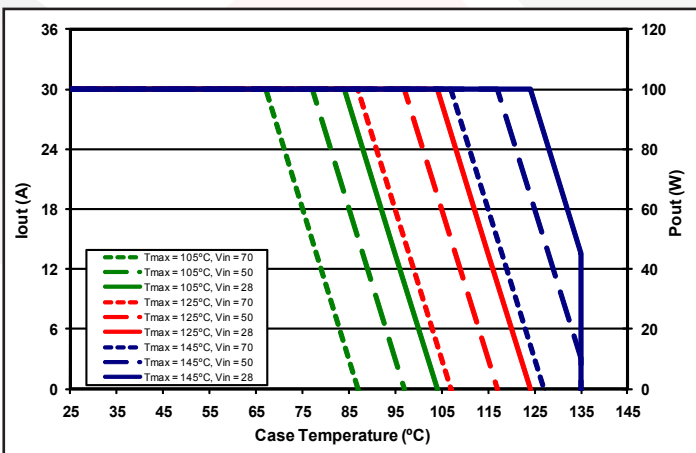

Figure 5: Output Current / Output Power derating curve as a function of Tcase and the Maximum desired power MOSFET junction temperature (see Note 14).
2. Derate output power for continuous operation per Figure 5. 135°C is above specified operating range.